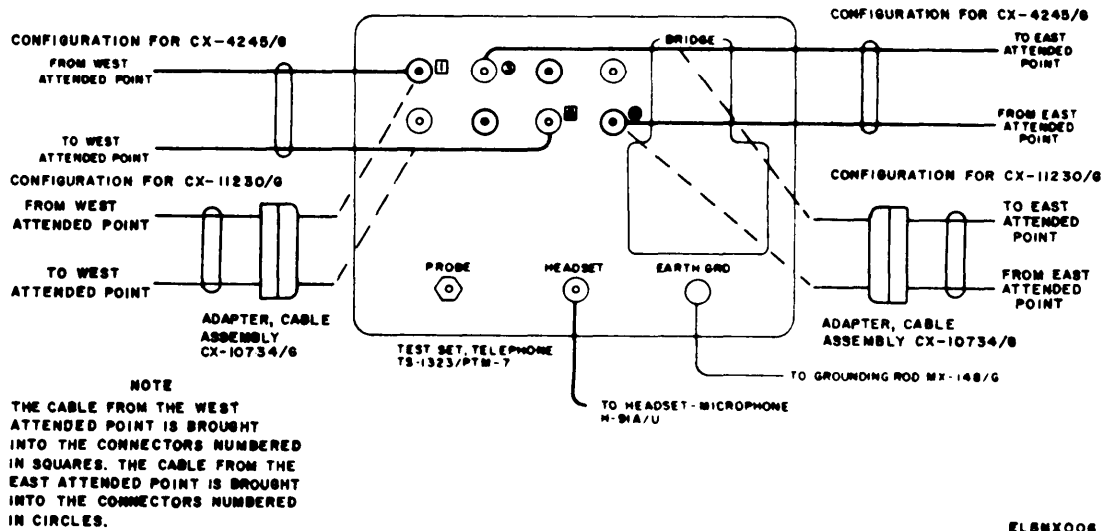

Figure 3-8. Cable connections for order-wire circuit operation at quarter-mile junction points of cable CX-4245/G.
(4) To connect the TS-1323/PTM-7 to the CX-4245/G at a junction point where there is no TD-206/G, refer to figure 3-8. The CX-4245/G from the west attended point is connected to connectors 1 and 6. The CX-4245/G from the east attended point is connected to connectors 3 and 8.